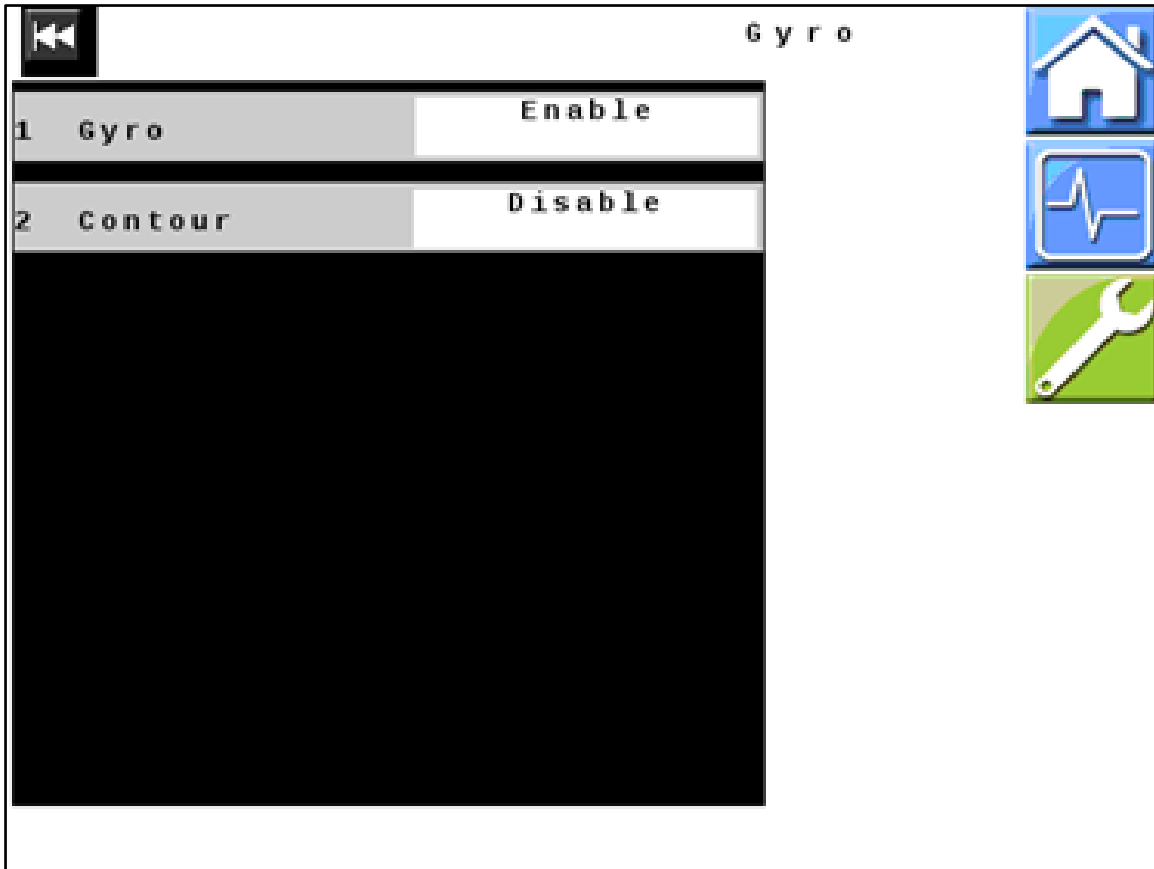

Figure 24 — Gyro
42. *Figure 24:* Verify that all values displayed on your unit match those shown here. Change values if necessary.